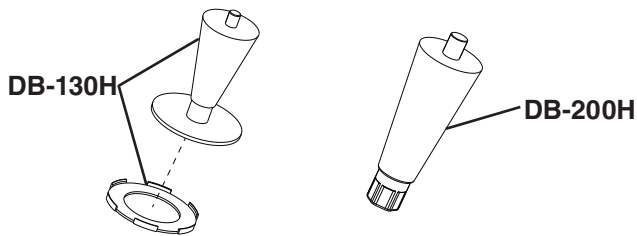

Fig. 4
- 1) Attach the 4 adjustable legs to the bottom of the ice dispenser. See Figs. 4 and 5.